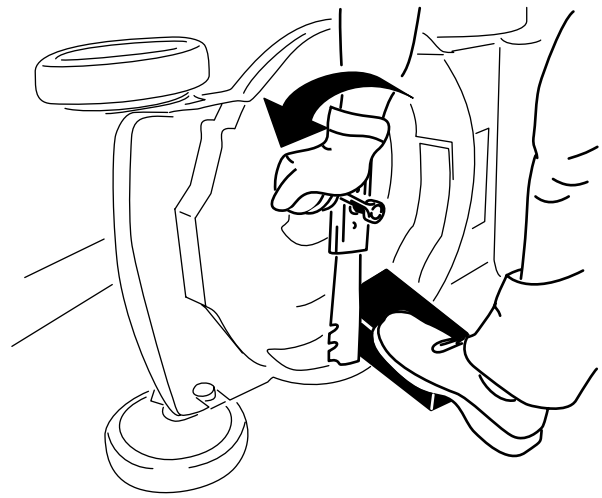

Figure 31
4. Remove the blade, saving all mounting hardware (Figure 31).
3. Use a block of wood to hold the blade steady (Figure 31).